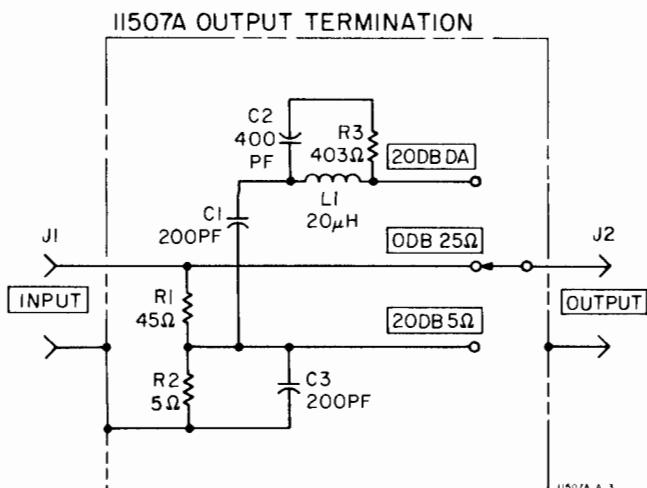

Figure 4. Schematic Diagram
11. Succeeding paragraphs give instruction for repair of the Model 11507A Termination. The schematic diagram is shown in Figure 4. Stock numbers required when ordering replacement parts are given in Table 3. To order a replacement part, address order or inquiry to your local Hewlett-Packard Sales and Service Office (see list at the rear of this Note).